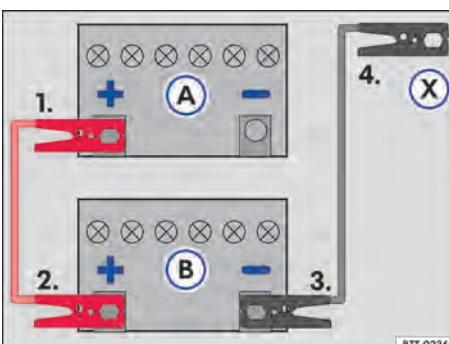

Fig. 184 Jump lead attachment diagram: discharged vehicle battery **A** and battery in the vehicle providing assistance **B**.
Key for→ Fig. 184:
- Connect one end of the *red* jump lead to the positive terminal → Fig. 184 (+) of the vehicle with the discharged battery (A) → ▲.
- Connect the other end of the *red* jump lead to the positive terminal (+) of the battery in the vehicle providing assistance (B).
- Connect one end of the *black* jump lead to the negative terminal (–) of the battery in the vehicle providing assistance (B).
- Connect the other end of the *black* jump lead (X) to the vehicle with the discharged battery. Connect it to the screwed-in towing eye at the front, a solid metal component which is bolted on to the engine block, or to the engine block itself. However, do not connect it to a point near the vehicle battery (A) → ▲.